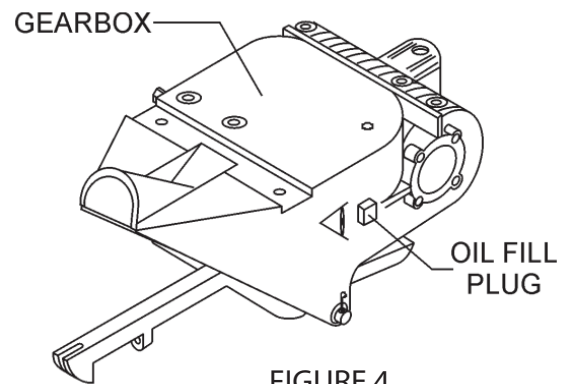

FIGURE 4
7.4.1 Determine if the gearbox oil is low by removing the oil plug located on the side of the gearbox. This plug will be marked by the "check" decal. See Figure 4. The correct level of the lubrication oil should be to the bottom of the fill plug.